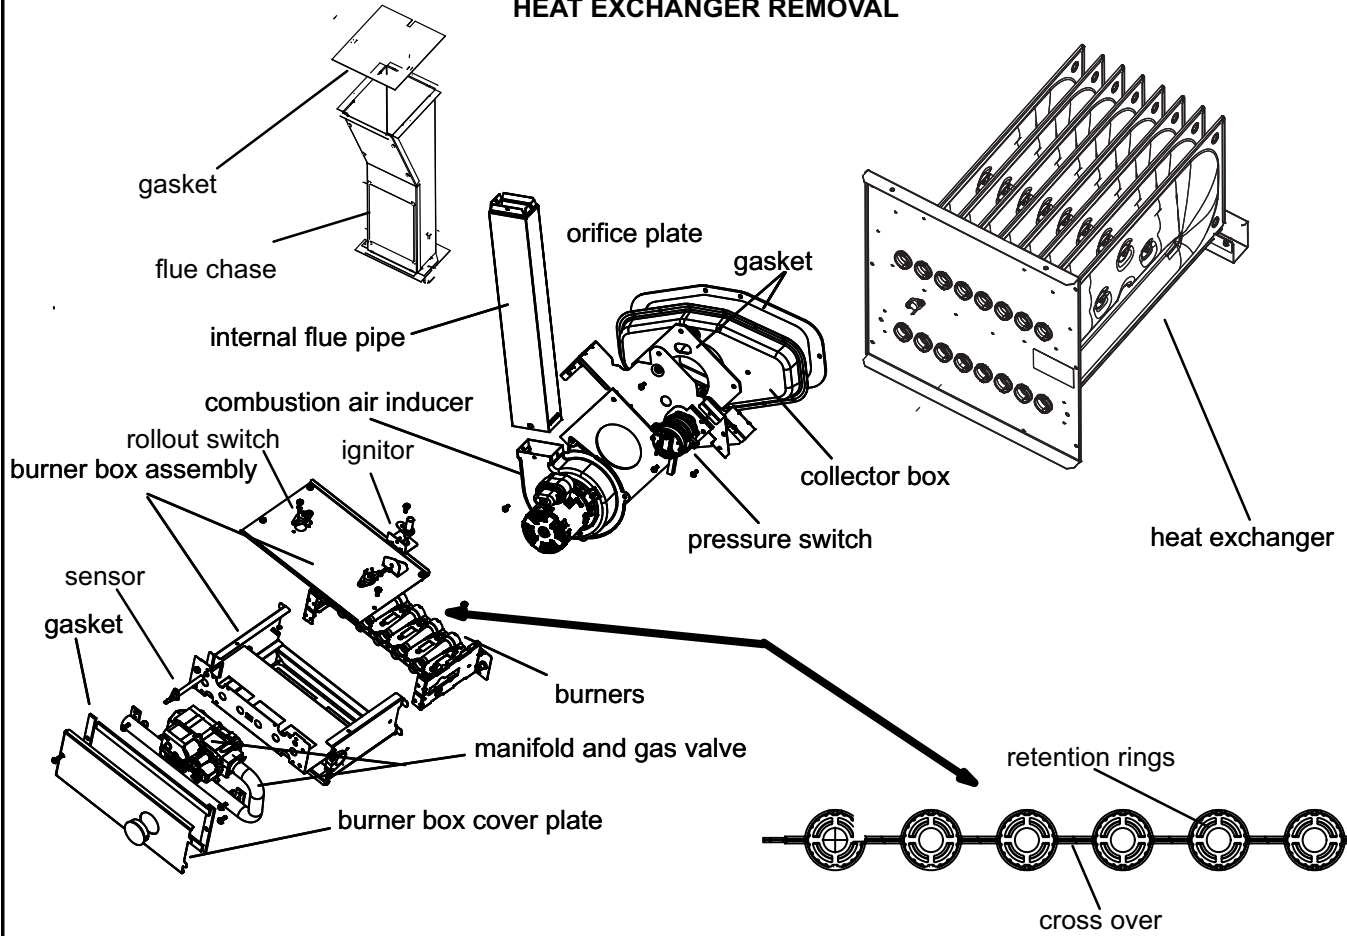

FIGURE 30
- 11 - To clean burners, run a vacuum cleaner with a soft brush attachment over the face of burners. Visually inspect inside the burners and crossovers for any blockage caused by foreign matter. Remove any blockage. Figure 30 shows burner detail.